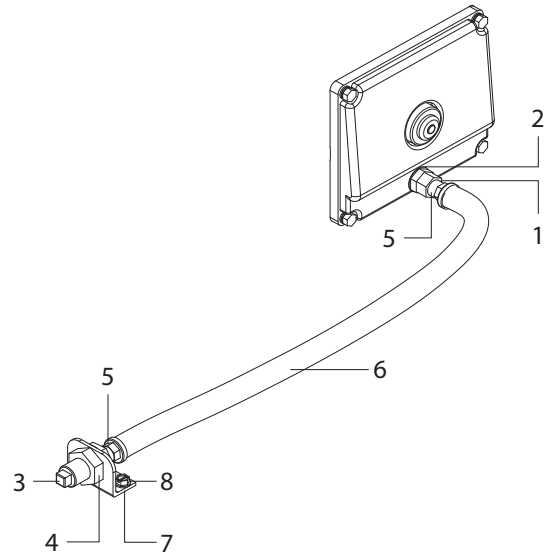

Figure 4
3. Install 1/4" BSP fitting (Figure 4, item 1) with O-ring (2) into rear cover of pump.
4. Attach hose barbs (5) to each end of 3/8" hose (6).
5. Thread one end of hose (6) into fitting (1) of rear cover.
6. Remove nut from 1/4" union fitting (4).
7. Thread in hose (6) with barb end into large end of union fitting (4).
8. Mount bracket (7) with screws (8) into desired position to maximize drainage.
9. Install hose assembly with union fitting end through mounting bracket (7) or panel (Bulkhead hole is .78" diameter).
10. Reinstall nut onto threads of union fitting (4) and tighten.
**Note:** Centerline to centerline dimension for bracket (7) hole is 1.50", drill two - .209 diameter holes.
11. Thread in square end plug (3) into threaded end of union fitting (4).